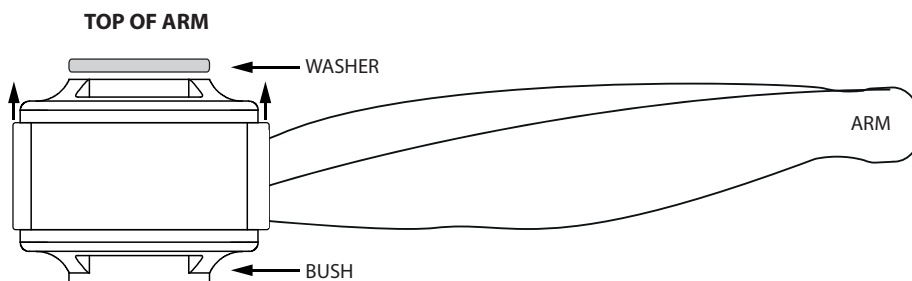
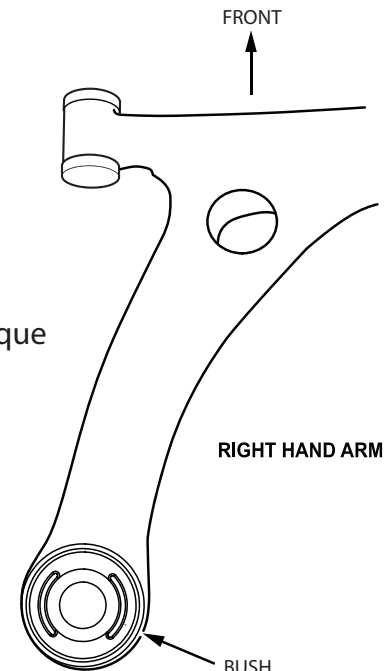

Figure 1
Figure 2
3. Insert the polyurethane bush into arm with the shorter lip face on the top side of the arm (facing upwards on the car) as shown in figure 1. Make sure the bush voids are positioned in line with arm, as shown in figure 2.